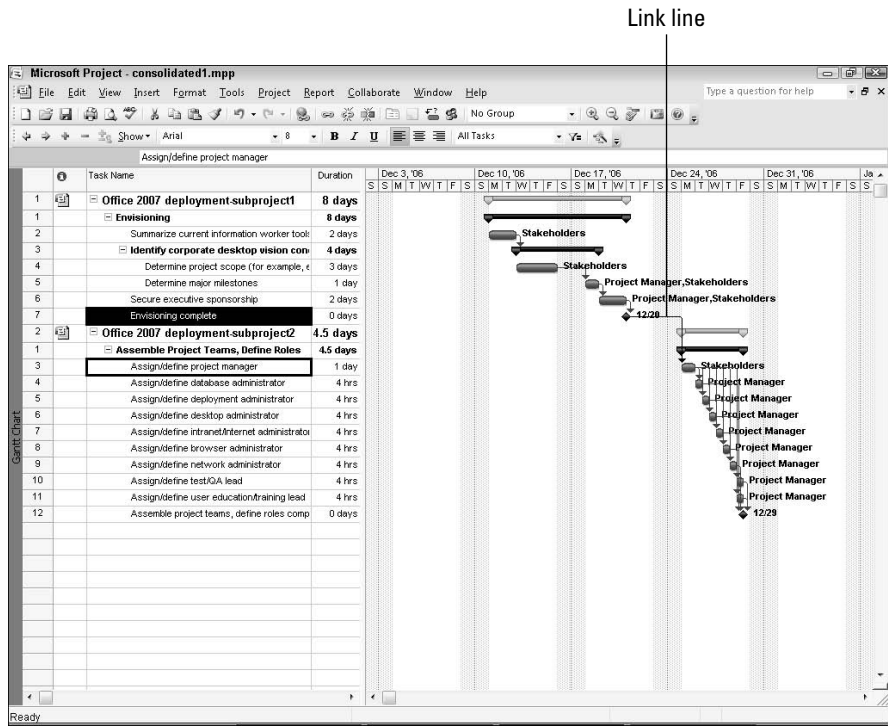

Figure 4-16: You can link a task in one subproject to a task in another subproject.
2. Select the tasks that you want to link (see Figure 4-16).